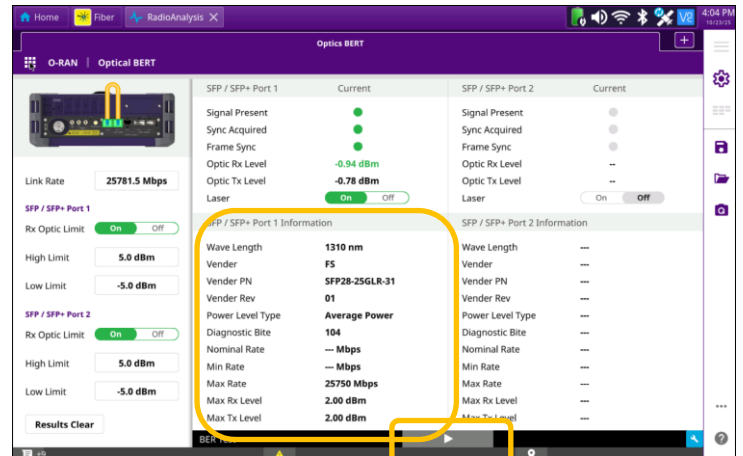

Figure 7: Duplex SFP28 (25G) Example
4. Figures 7 and 8 (right) show the parameters and test results for a duplex SFP28 (25G)